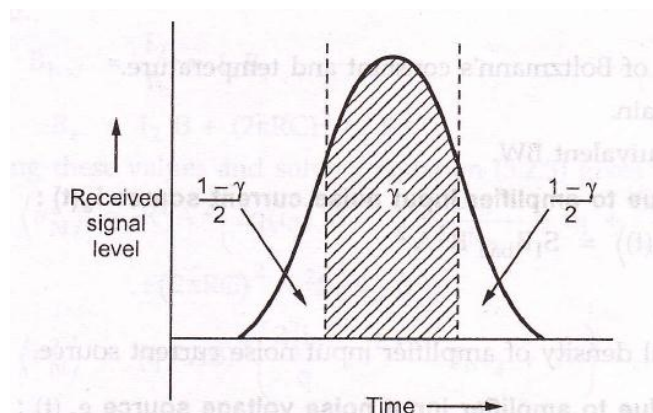

Fig. 5.2.1 Pulse spreading in adjacent time slot
- Intersymbol interference (ISI) also contributes to error which is causing from pulse spreading. Because of pulse spreading energy of a pulse spreads into neighbouring time slots, results in an interfering signal. Fig. 5.2.1 shows ISI.
- Energy in appropriate time slot is  $\gamma$ . The total energy in adjacent slots is  $1 - \gamma$  as shown in the Fig. 5.2.1.